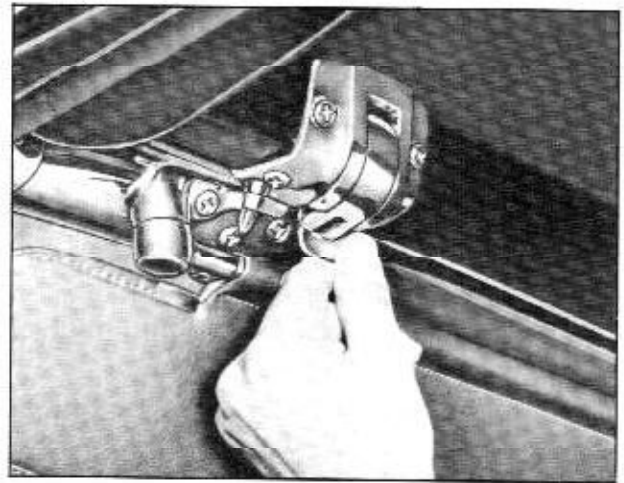

Fig. 15-63 Unlocking Top From Header
2. Turn down both sun visors; rotate each locking handle rearward then upward until it is disengaged from striker on windshield header. (Fig. 15-63)